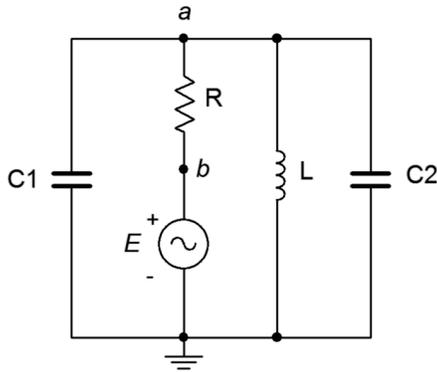

Figure 4.23
40. Consider the circuit drawn in Figure 4.23. Using only the available components of  $1\text{ k}\Omega$ ,  $2.2\text{ k}\Omega$ ,  $1\text{ mH}$ ,  $5\text{ mH}$ ,  $10\text{ nF}$ ,  $75\text{ nF}$  and  $560\text{ nF}$ , is it possible to configure a circuit such that  $v_a$  is half the magnitude of  $v_b$ ? If so, indicate which values could be used for the four components. If not, explain your reasoning.